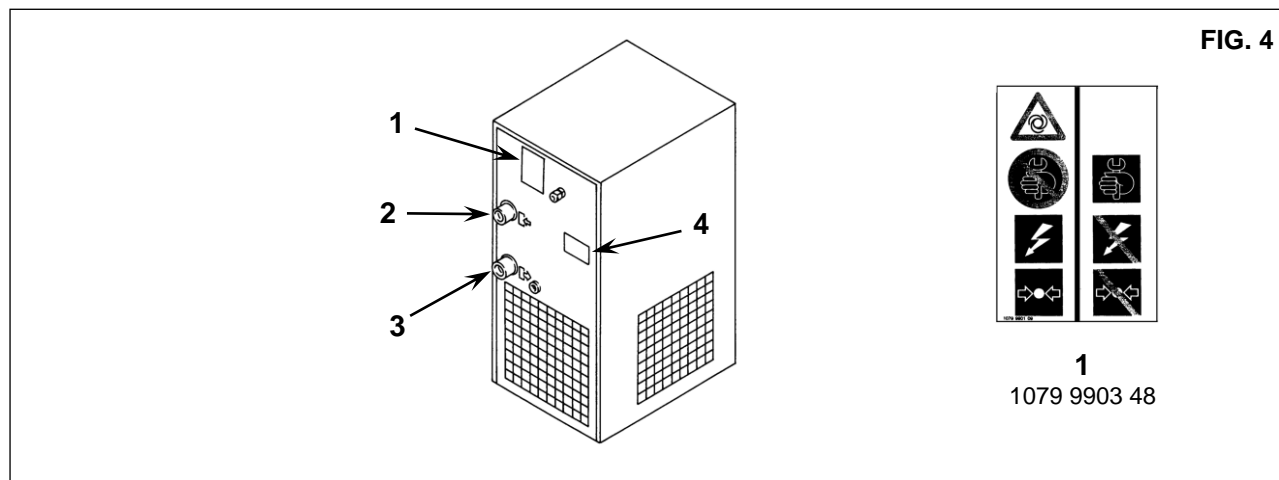

FIG. 4
**8.0 POZIȚIA PLĂCUȚELOR DE AVERTIZARE****8.1 POZIȚIA PLĂCUȚELOR DE PERICOL (fig. 4)**
**8.2 POZIȚIA PLĂCUȚELOR DE INFORMARE (fig. 4)**